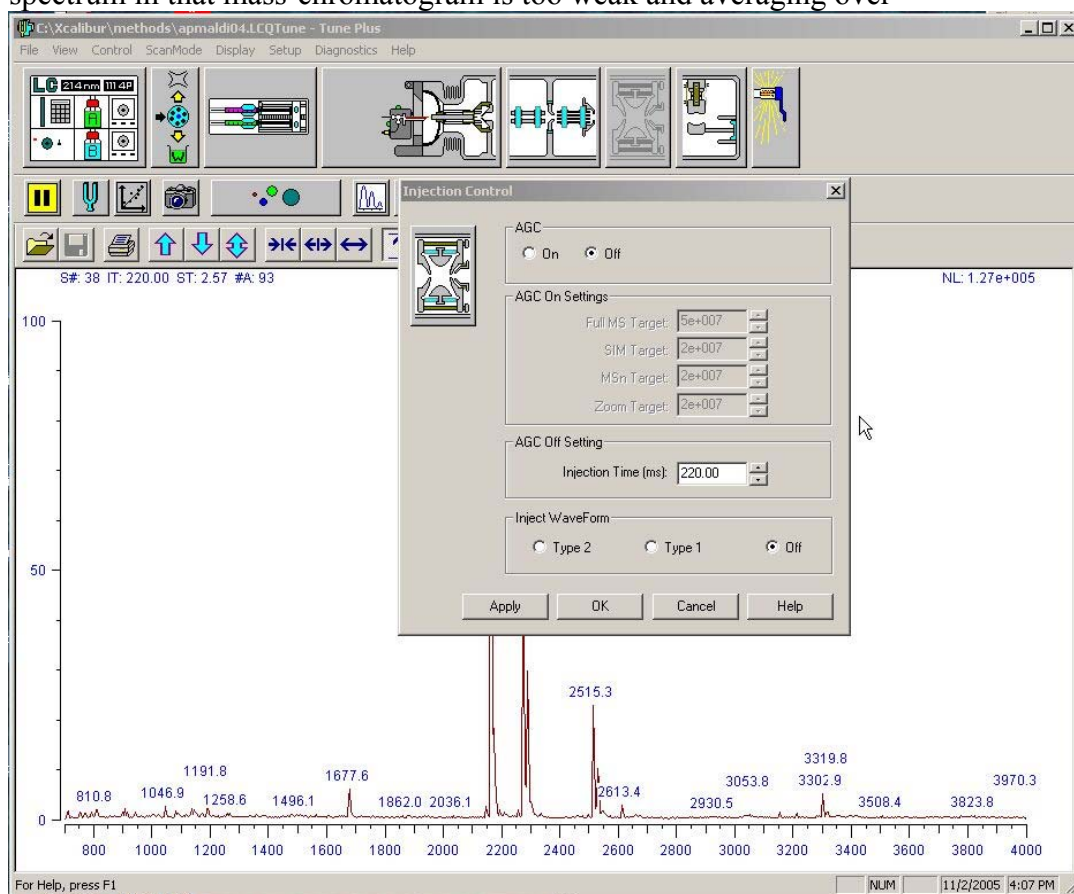

Fig. 7-17 Switch off AGC and set Injection Time to 220ms or even more
- The AP/MALDI PDF+ source typically generates a much weaker ion current compared with Electrospray. Therefore, for the highest sensitivity, switch Automatic Gain Control (AGC) off and choose Injection time manually around 220ms. Sometimes you may have to increase the Injection Time up to 500-1000 ms. If the sample concentration is too high (NL parameter in the spectrum reaches 1e7 value or above), it is your responsibility to decrease Injection Time to avoid the trap saturation (Fig. 7-17).